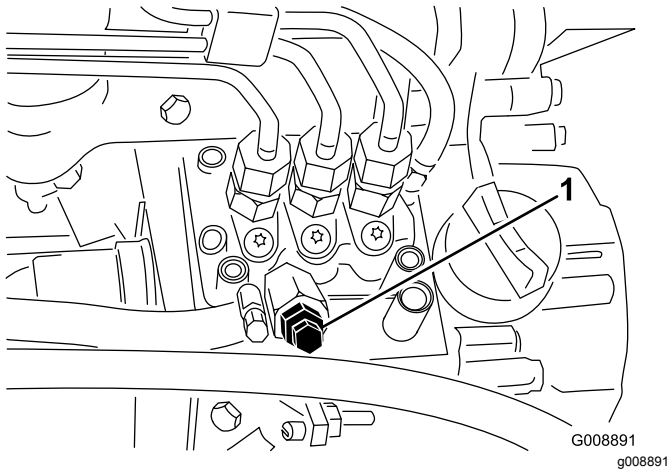

Figure 42
4. Open the air bleed screw on the fuel-injection pump (Figure 42).